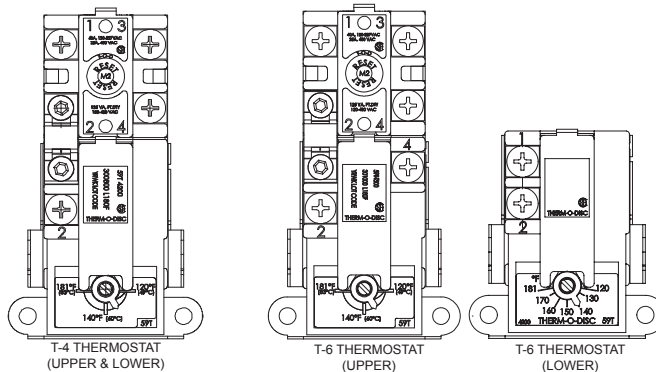

FIGURE 5
3. Depress the red manual reset button on each Thermostat/ECO combination control. (See Figure 5, or Figure 6)
The thermostats are adjustable from approximately 120°F (49°C) (lowest setting) to 181°F (83°C) (highest setting) (See Figure 5). These thermostats are set from the factory at approximately the 140°F (60°C) setting. The over temperature device (ECO high limit) attached to each thermostat has a manual reset.